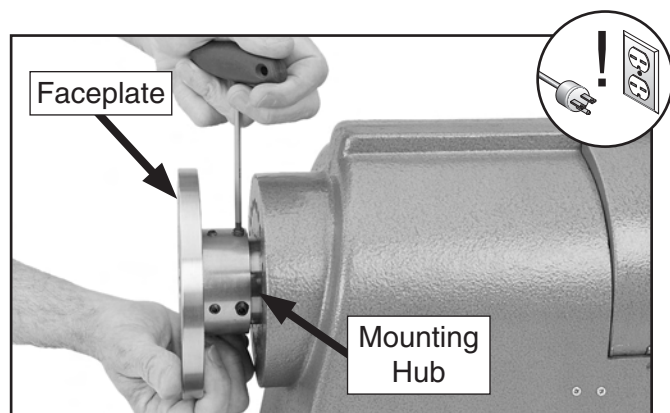

Figure 47. Loosening set screws on inboard mounting hub.
3. Loosen the set screws on the inner face of the mounting hub, as shown in **Figure 47**, then remove the mounting hub.